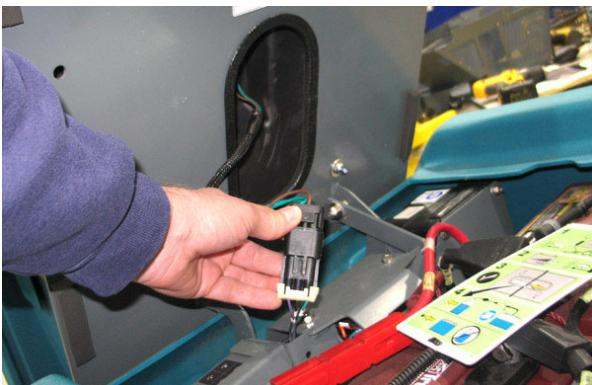

FIG. 5
3. Disconnect the main wire harness from the operator seat switch harness. (Fig. 5)